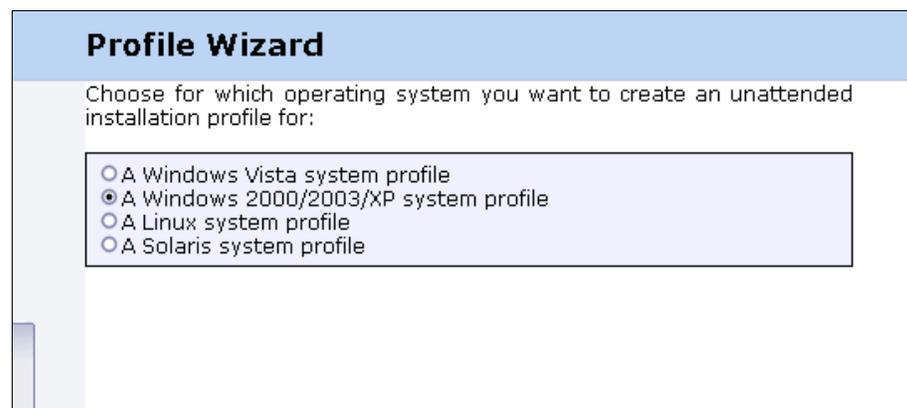

Figure 2-6 Creating a Window XP profile
3. In the next profile wizard window it asks you the operating system that will be contained in the profile. In this case select “**A Windows 2000/2003/XP system profile**” option as shown in Figure 2-6